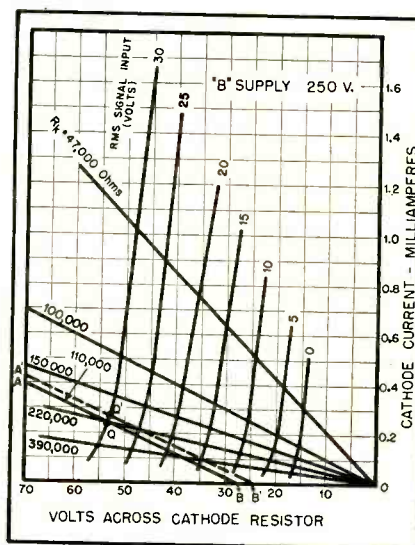

Fig. 8. Rectification characteristics of 6C4 in infinite-impedance detector circuit.
data for such curves experimentally. Such data is obtained in the circuit of (D), Fig. 5, by making C_k very large and measuring the direct voltage across and the direct current through R_k as R_k is varied, while keeping the plate supply and grid-signal voltages constant. Figure 8 shows the rectification characteristics of the 6C4 obtained in this manner. If a large electrolytic capacitor is used for C_k , the data may be obtained with a signal frequency as low as 60 cps. The data for the curves of Fig. 8, however, were taken at a frequency of 455 kc.
illustrate the large signal capabilities of the circuit. Figure 8 shows that at the quiescent point Q (no modulation), the d.c. voltage across the cathode resistor will be 53.8 volts. Now, if a grid resistor of 220,000 ohms is employed, the a.f. impedance will be 110,000 ohms and the detector operation will be along the line AQB . This analysis indicates that the detector output will go to zero at a carrier level of approximately 8 volts r.m.s., showing that the maximum percentage modulation which the detector will accommodate without distortion is approximately